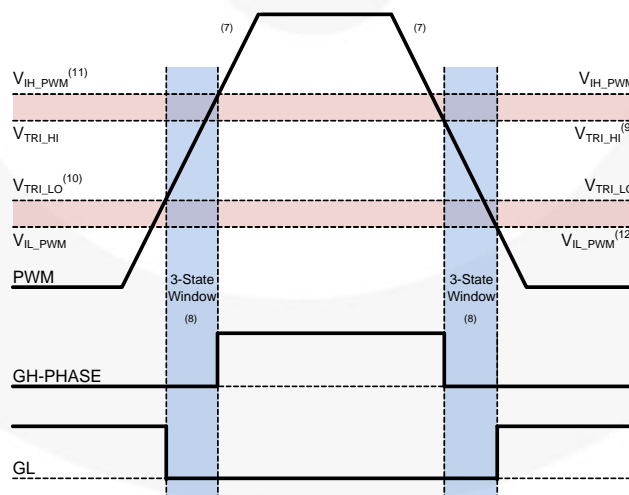

Figure 28. PWM Threshold Definition
7. The timing diagram in Figure 28 assumes very slow ramp on PWM.